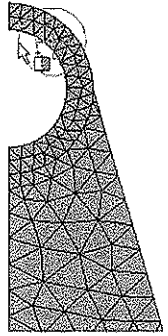

Figure 7-53 Cursor position
- 11. Move the cursor to the location shown in Figure 7-53.